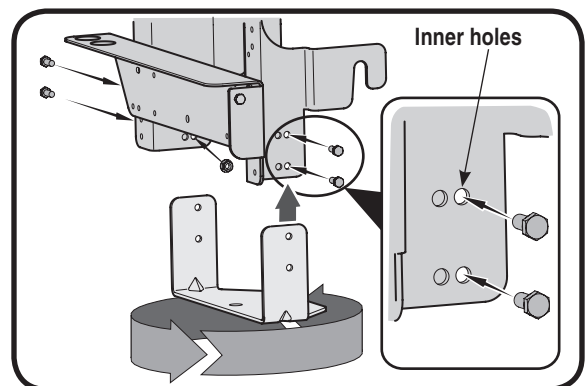

Figure 15
2. Rotate the hitch plate 180° from its original position. Re-insert the four bolts through mounting bracket and hitch plate frame and secure with nuts removed earlier. Use the inner holes (closest to the mounting hooks) on the mounting bracket. Refer to Figure 15.